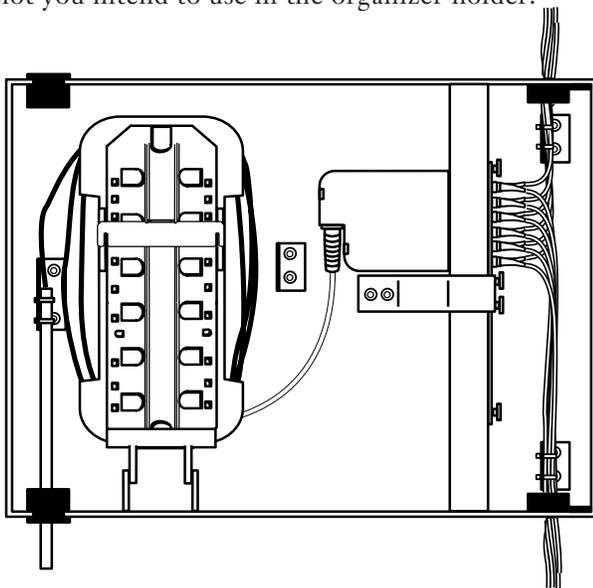

Figure 10
8.5 Load organizer trays into the WDC unit as indicated in Figure 10. Work on one organizer at a time starting with the one to be placed in the lowest slot you intend to use in the organizer holder.